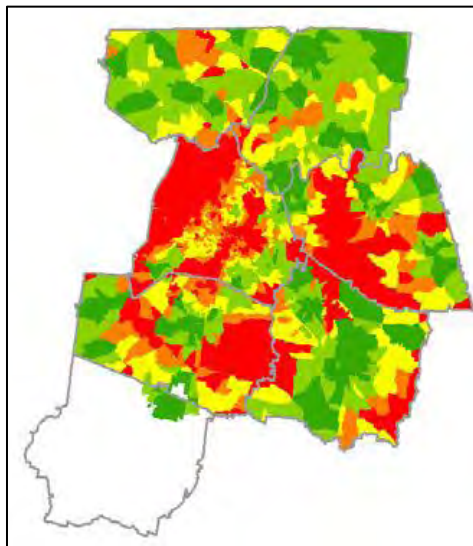

Figure 18. Average Distance of HBO Trips
3. Average Distance of “Home-Based/Other” Trips (Figure 18): Average distance of trips that end in a census block made for a “home-based/other” purpose (e.g., home to school, home to grocery, gas station to home, etc.) as predicted for the base year (2008) by the MPO’s regional travel demand model.